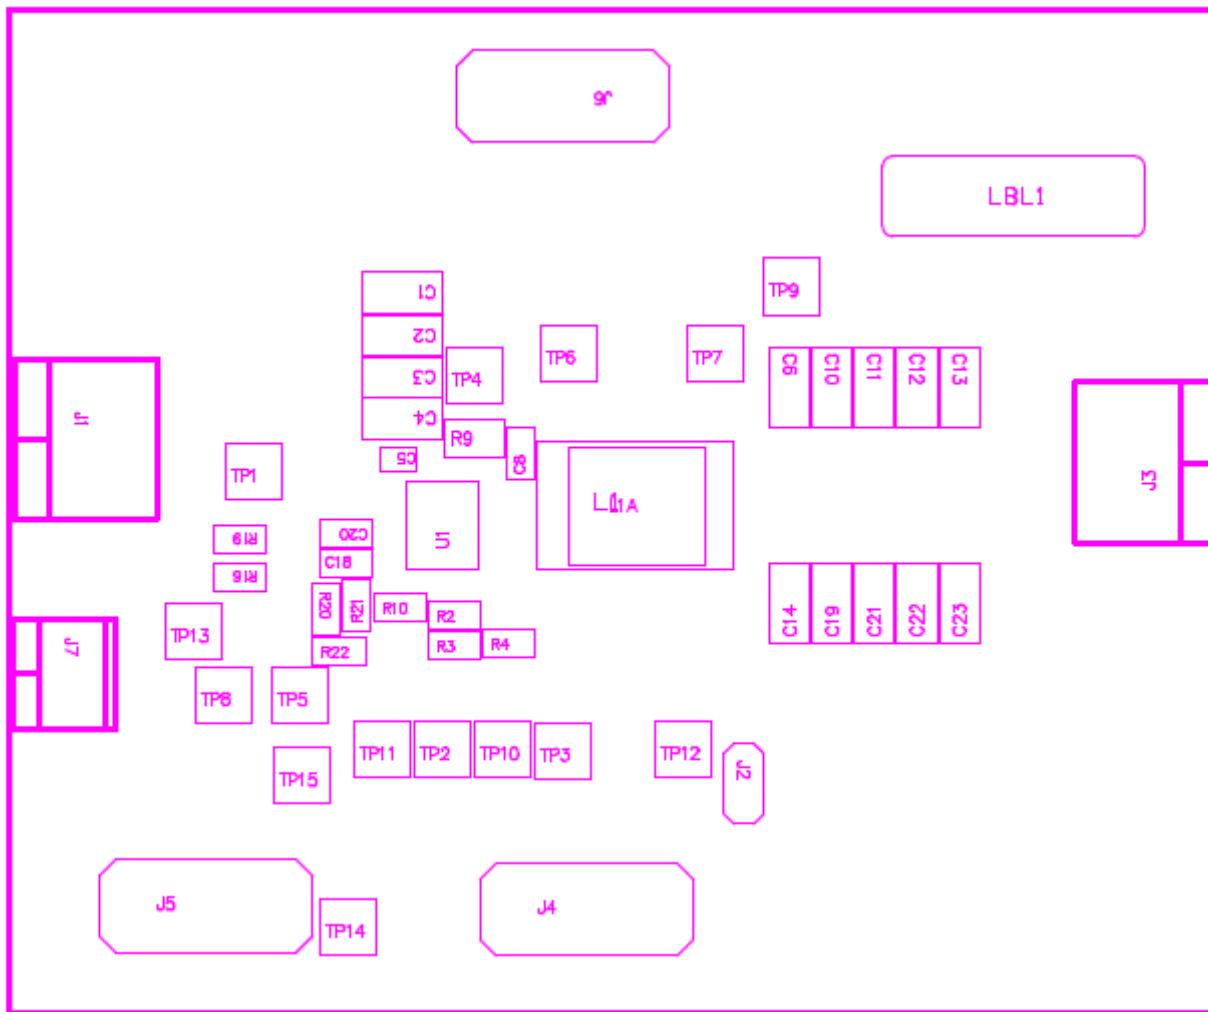

**Figure 5-1. Tip and Barrel Measurement for Output Voltage Ripple**
**Oscilloscope** A digital or analog oscilloscope measures the output ripple. The oscilloscope must be set for the following: 1-M $\Omega$  impedance, 20-MHz bandwidth, AC coupling, 1- $\mu$ s per division horizontal resolution, 20-mV per division vertical resolution. Test points TP7 and TP9 measure the output ripple voltage by placing the oscilloscope probe tip through TP7 and holding the ground barrel on TP9 as shown in Figure 5-1. Using a leaded ground connection can induce additional noise due to the large ground loop.